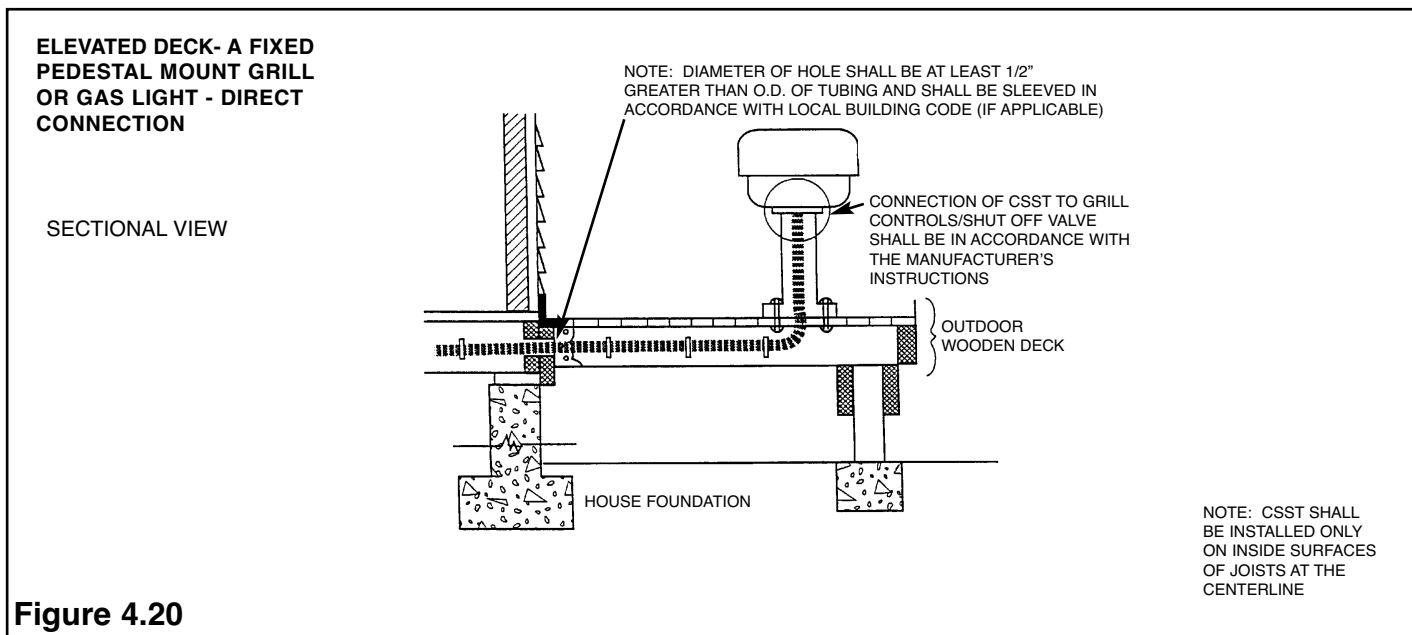

Figure 4.20
- Permanently mounted grills located on decks shall be connected to the WARDFLEX system as shown in Figure 4.20 and in accordance with WARD MANUFACTURING instructions. The outdoor portion of the WARDFLEX shall be supported against the side of any of the inside deck joists. If the elevation of the deck is below the top of the foundation, any exposed WARDFLEX shall be protected using conduit.